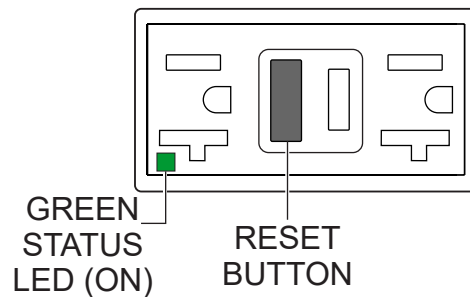

Figure 51. GFCI Receptacle (ON/Restore)
5. Press the **RESET** button (Figure 51) to restore power to the GFCI receptacle and verify that the status LED is **ON (GREEN)**.